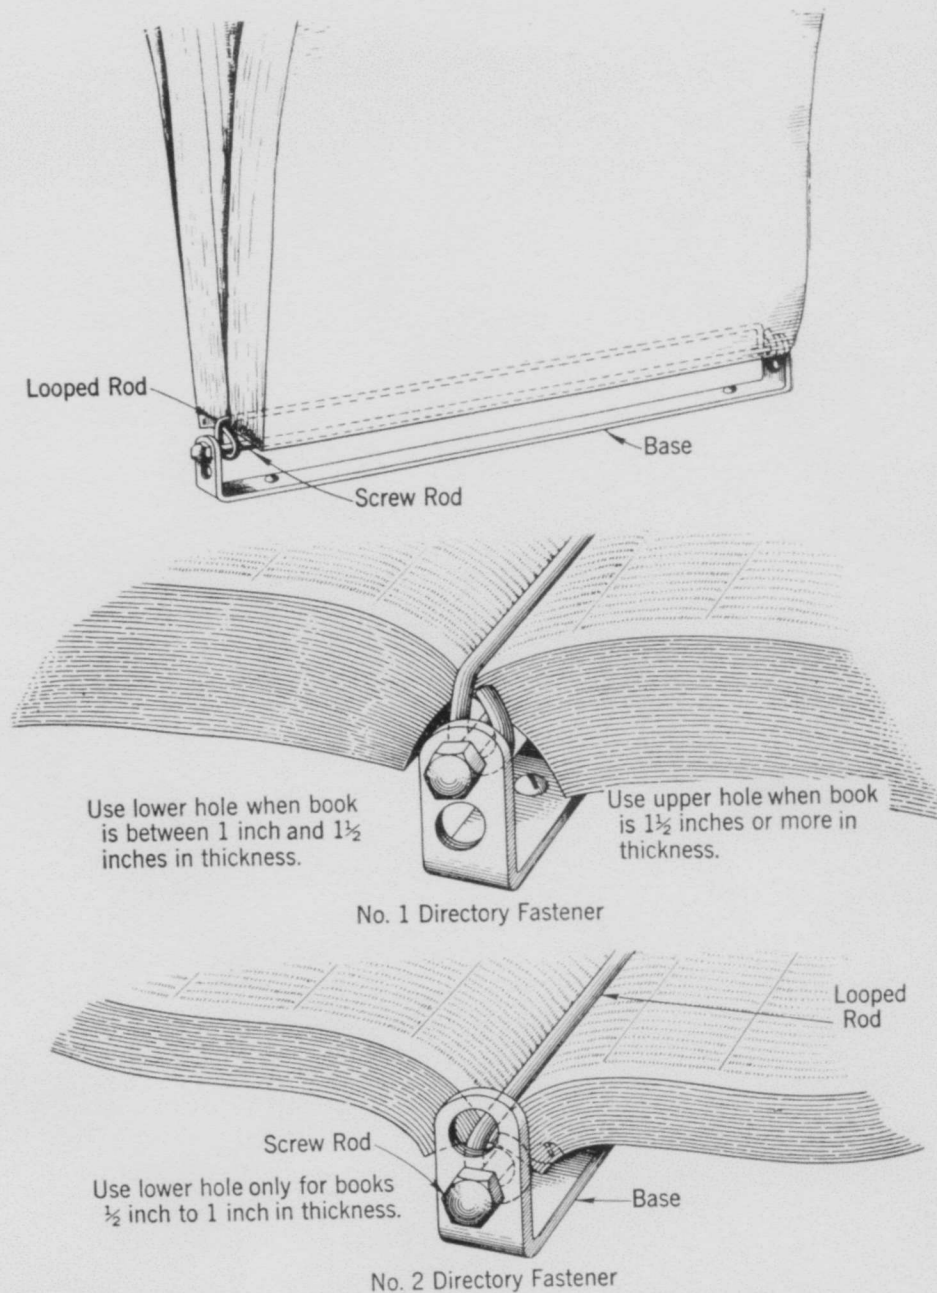

Fig. 9—Placing Directory in Fasteners
4.02 **Placing Directories in Fasteners:** Remove screw rod and looped rod. Place looped rod in center of open directory with loops down. Insert screw rod through threaded hole in base, then through the two loops in rod, and finally through plain hole in base. Turn up screw rod with socket wrench to prevent unauthorized removal of directory. See Fig. 9.